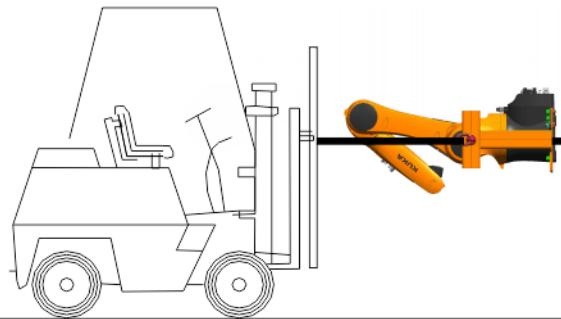

Fig. 8-6: Lifting the Load Lifting Attachment with a fork lift truck
11. Lift the Load Lifting Attachment with a fork lift truck (**>>> Fig. 8-6**).